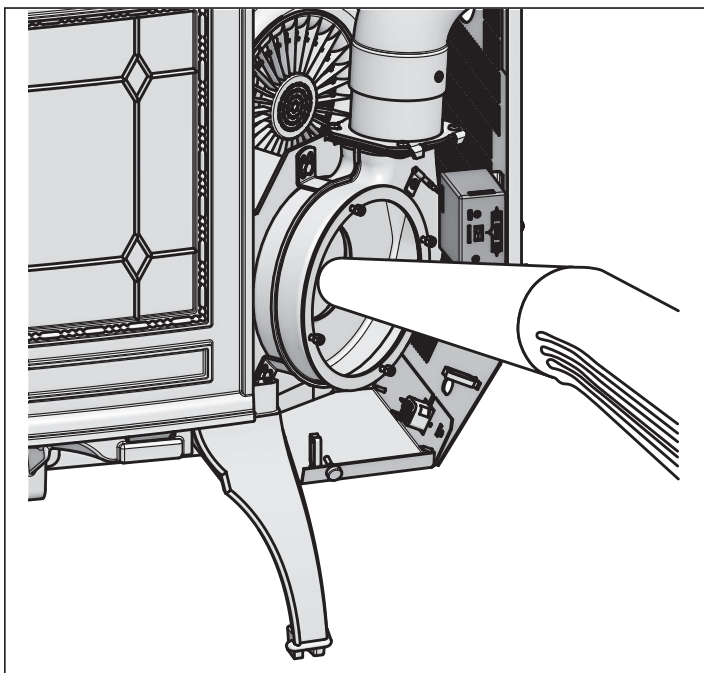

Figure 25.1
- d. Vacuum out exhaust path and housing (**Figure 25.1**).